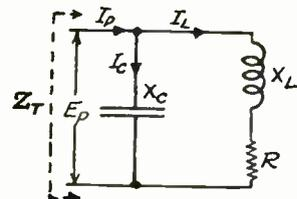

Fig. 3. Tank circuit currents and voltages.
circuit only ($= \omega L_A / R_A = 1 / \omega C_A R_A$). Equation (3) is plotted in solid lines in Fig. 7 for the second and third harmonics between the harmonic current ratio I'_A/I_A and the product $K_T K_A$ of the volt-ampere ratios in the tank and antenna circuits. Equation (3) and Fig. 7 are subject to the same general stipulations regarding tube current, capacitive coupling and antenna impedance as mentioned for the circuit of Fig. 3.
The preceding curves show the minimum ratio K_T that can be permitted in circuits like Figs. 3 and 6 for any re-
Harmonic content of tank coil current for circuit of Fig. 3.